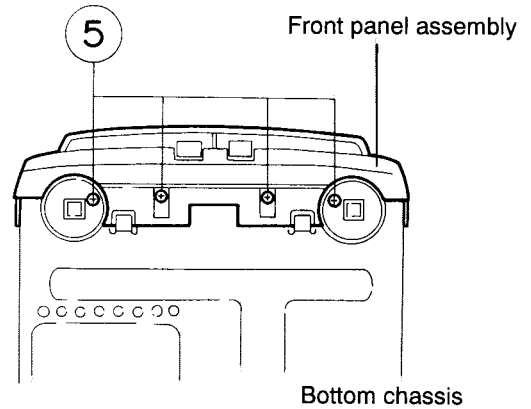

Fig.5-5
(See Figs. 5-5~5-9)
3. Remove the four screws ⑤ fastening the front panel assembly to the side of the main unit. (See Fig. 5-5)